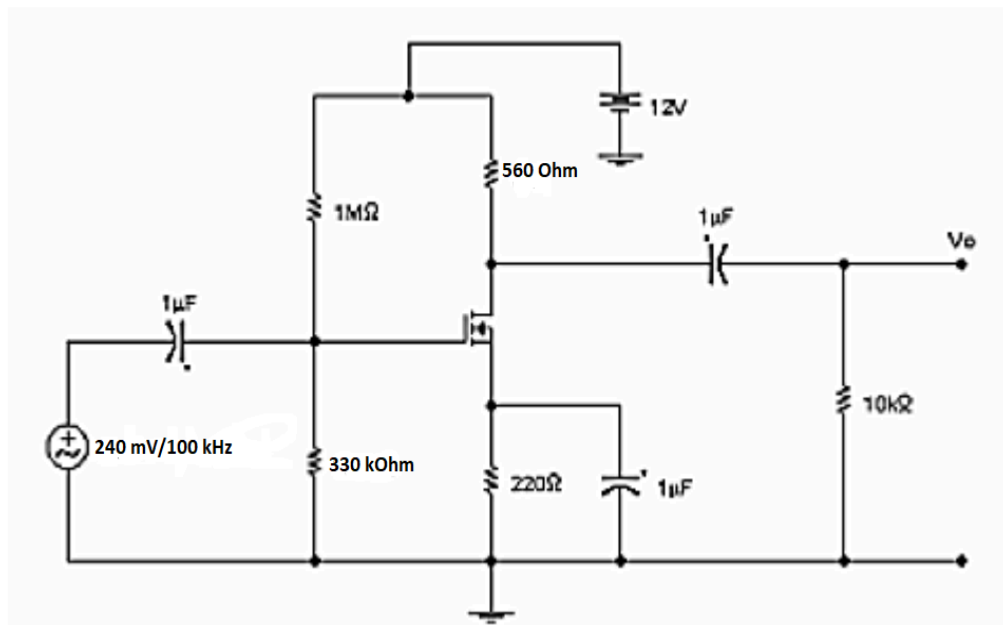

Figure 1
1. Set up the circuit given in Figure 1 in OrCAD. You can refer to Figure 3 to understand how to add the MOSFET in the circuit. Use the PSpice model given in 'Note 2' below. (Right click on the Mosfet and select the 'Edit Pspice Model' and then you can find a pane like in Figure 2. You must paste the model parameters given in 'Note 2' in the pane. Then click the 'Save Library'.)
3. Change the input signal with a sinusoidal voltage source that has 240mV amplitude at **100kHz**. Run transient simulation. Plot the input and output signals for 5 periods of the signal. What is the gain based on the transient simulation? Does it agree with the AC gain in the question (3) and question (2)?
5. Design how to set the circuit in Figure 1 on the breadboard. Add your drawing to your report.
6. Set up the circuit given in Figure 1 in TincerCAD and add the results to the report.
- Set up the circuit given in Figure 1.